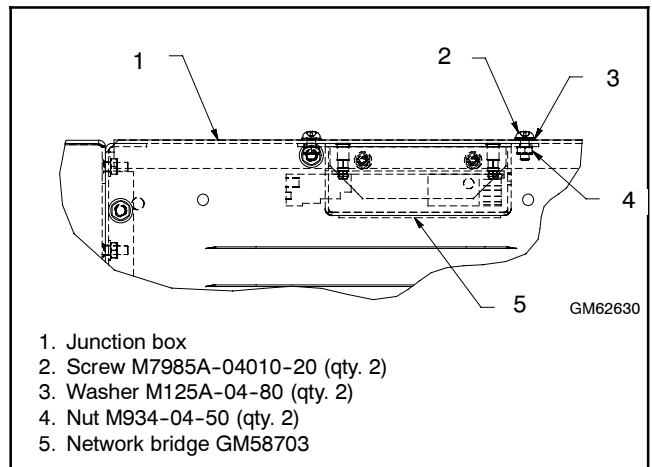

Figure 20 Network Bridge Mounting
- c. Install network bridge GM58703 inside the junction box as shown in Figure 20. Use two screws M7985A-0410-20, washers M125A-04-80, and nuts M934-04-50 to secure the bridge.